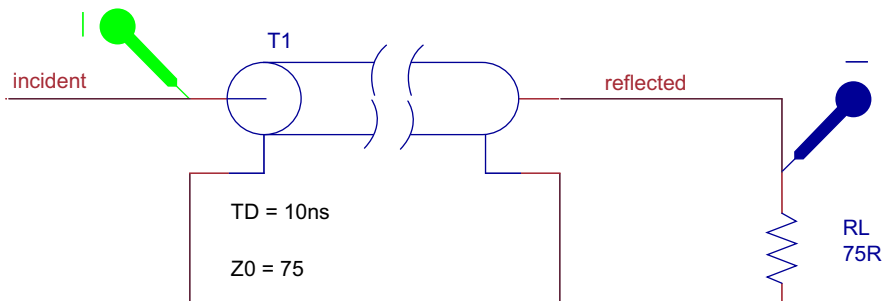

FIGURE 17.10
6. Delete the voltage markers in Capture and place current markers on the input pin (incident) to T1 and the top pin of the load resistor, RL (Figure 17.10).